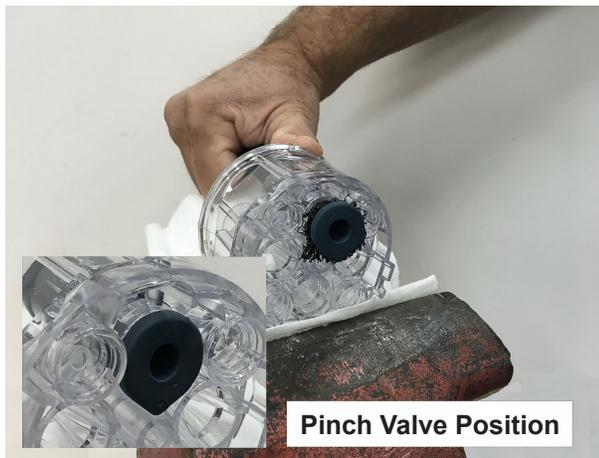

Figure 31 Pull Insertion Tube Through Chamber
2. See Figure 31. Drag the valve through the chamber and check the alignment of the pinch valve in the housing.